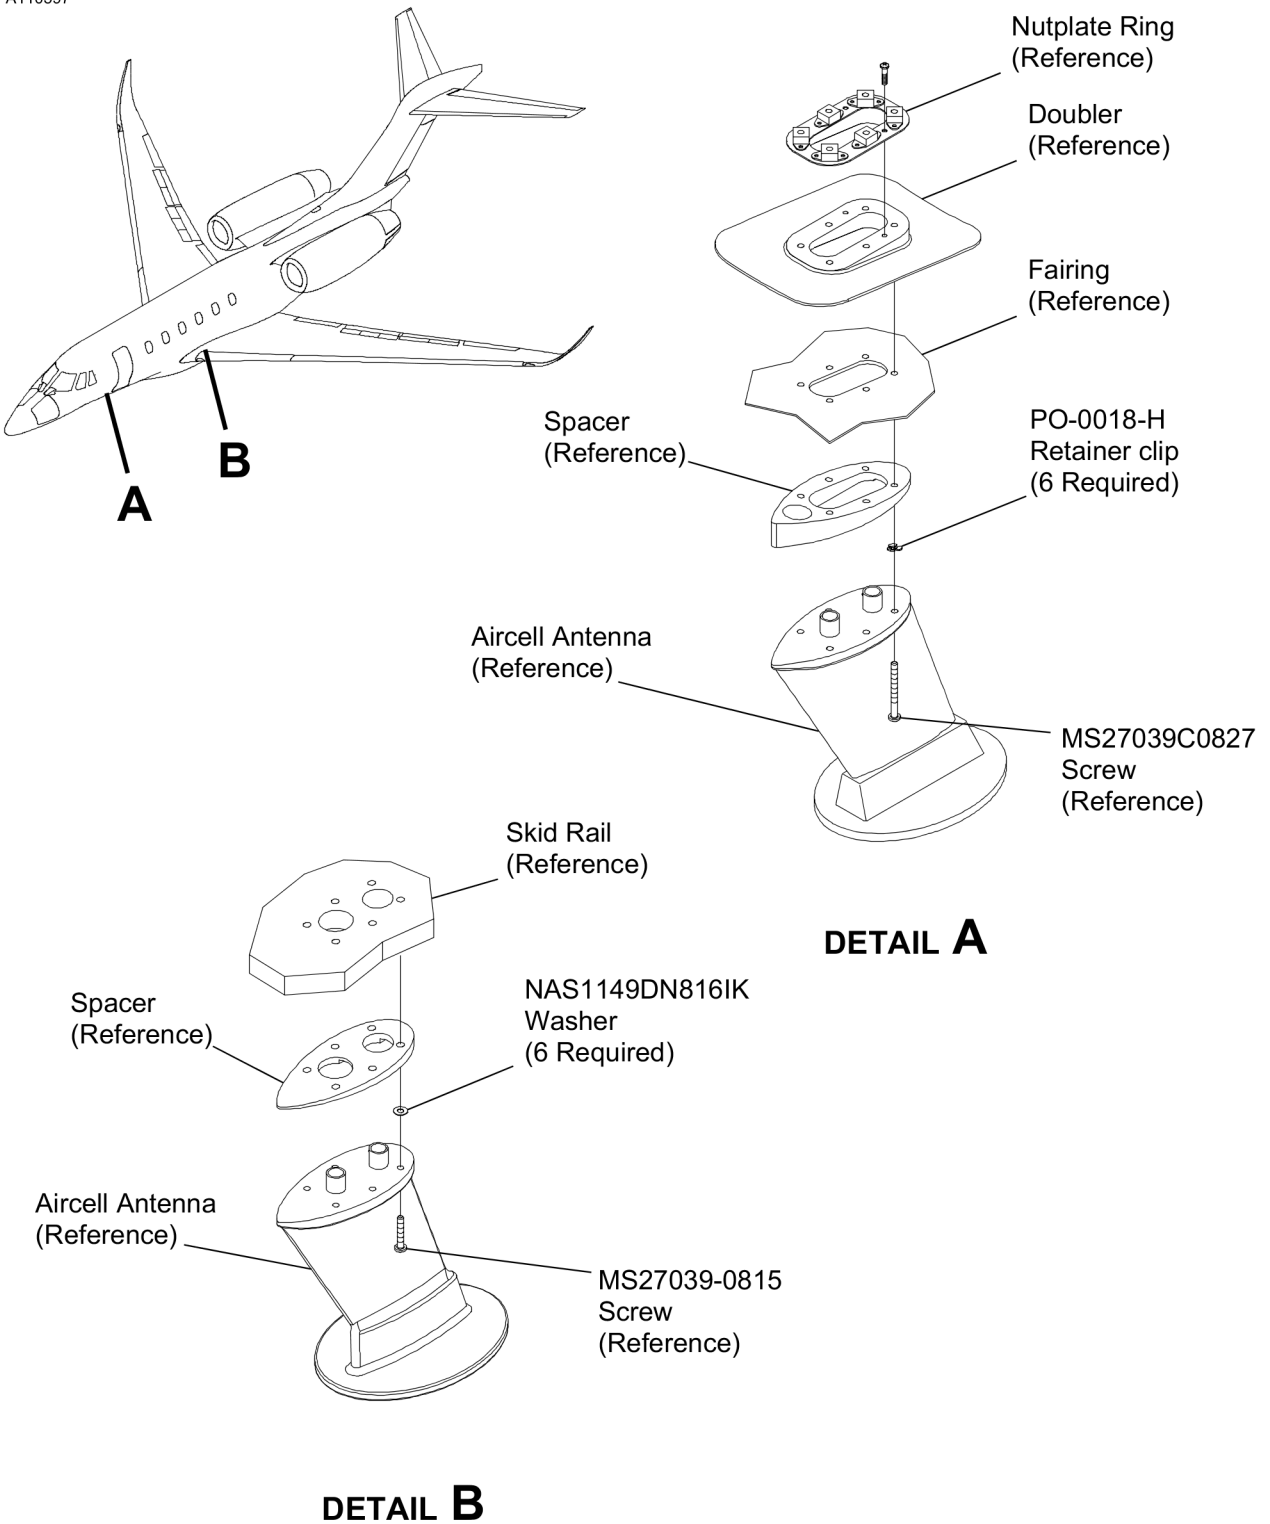

Figure 1. Aircell ATG Antenna Electrical Bonding Improvement (Sheet 1)
5. (Refer to Figure 1, Detail A.) Install the forward Aircell ATG Antenna as follows:
- (1) Remove the nutplate ring from the antenna doubler.
- (2) If necessary, remove the primer from the mating surface of the antenna doubler.
- (3) If necessary, remove the primer from the mating surface of the nutplate ring.
- (4) Apply U074093 Color Chemical Film to all bare material on the doubler and nutplate ring. (Refer to the Model 750 Structural Repair Manual, Chapter 51, Protective Treatment of Metal - Description and Operation.)
- (5) Remove the spacer from the Aircell ATG antenna.
- (6) Remove the primer from the lower and upper surface of the spacer.
- (7) Apply U074093 Color Chemical Film to all bare material on the spacer. (Refer to the Model 750 Structural Repair Manual, Chapter 51, Protective Treatment of Metal - Description and Operation.)
- (8) Install six MS27039C0827 Screws in the antenna.
- (9) (Refer to Figure 1, Detail A.) Install one PO-0018-H Retainer Clip on each screw.
- (10) Apply a fay seal to the upper and lower surfaces of the spacer using U470638 Sealant. (Refer to Citation Standard Practices Manual, Chapter 20, Fuel, Weather, Pressure, and High-Temperature Sealing - Maintenance Practices.)
- (11) Install the spacer on the Aircell ATG antenna.
- (12) Install the forward Aircell ATG antenna on the aircraft.
- (13) Torque the MS27039C0827 Screws. (Refer to the Citation Standard Practices Manual, Chapter 20, Torque Data - Maintenance Practices.)
- (14) Make sure there is a Type I electrical bond between the spacer and the MS27039C0827 Screws. (Refer to Citation Standard Practices Manual, Chapter 20, Electrical Bonding - Maintenance Practices.)
- (15) Make sure that there is a Type I electrical bond between the antenna doubler and the nutplate ring. (Refer to Citation Standard Practices Manual, Chapter 20, Electrical Bonding - Maintenance Practices.)
- (16) Make sure that there is a Type V electrical bond between the antenna base and the screw countersinks in the 154AB access panel. (Refer to Citation Standard Practices Manual, Chapter 20, Electrical Bonding - Maintenance Practices.)
- (17) Connect the coax cables to the antenna.
6. (Refer to Figure 1, Detail B.) Install the aft Aircell ATG Antenna as follows:
- (1) If necessary, remove the spacer from the Aircell ATG Antenna.
- (2) Using a 0.50 inch (12.7mm) bonding brush, remove the exterior finish from mating surface of each spacer mounting holes.
- (3) Apply U074093 Color Chemical Film to all bare material around each mounting hole. (Refer to the Model 750 Structural Repair Manual, Chapter 51, Protective Treatment of Metal - Description and Operation.)
- (4) Install six MS27039-0815 Screws in the antenna.
- (5) (Refer to Figure 1, Detail B.) Install one NAS1149DN816K Washer on each screw.
- (6) Apply a fay seal to the mating surface of the spacer using U470638 Sealant. Except for around the 0.50 inch (12.7mm) diameter electrical bond of each mounting hole. (Refer to Citation Standard Practices Manual, Chapter 20, Fuel, Weather, Pressure, and High-Temperature Sealing - Maintenance Practices.)
- (7) Install the spacer on the Aircell ATG antenna.
- (8) Install the aft Aircell ATG antenna on the aircraft.
- (9) Torque the MS27039-0815 Screws. (Refer to the Citation Standard Practices Manual, Chapter 20, Torque Data - Maintenance Practices.)
- (10) Make sure that there is a Type I electrical bond between the Aircell Antenna and the antenna mount. (Refer to Citation Standard Practices Manual, Chapter 20, Electrical Bonding - Maintenance Practices.)
- (11) Apply a fillet seal around the base of the Aircell Antenna and spacer using U470638 Sealant. Do not seal around the spacer drain opening.